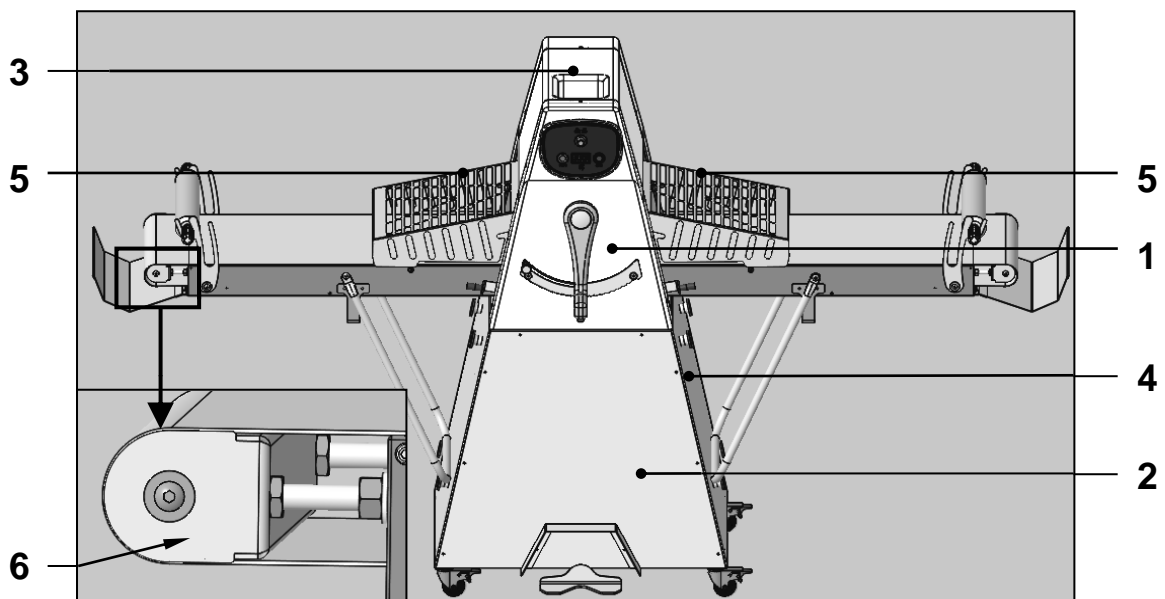

Fig. 4.10
The main fixed guards that come with the machine are indicated with ref. 1, ref. 2 (and the similar guards located on the opposite side of the machine in a symmetrical position) and ref. 3 in Fig. 4.10.